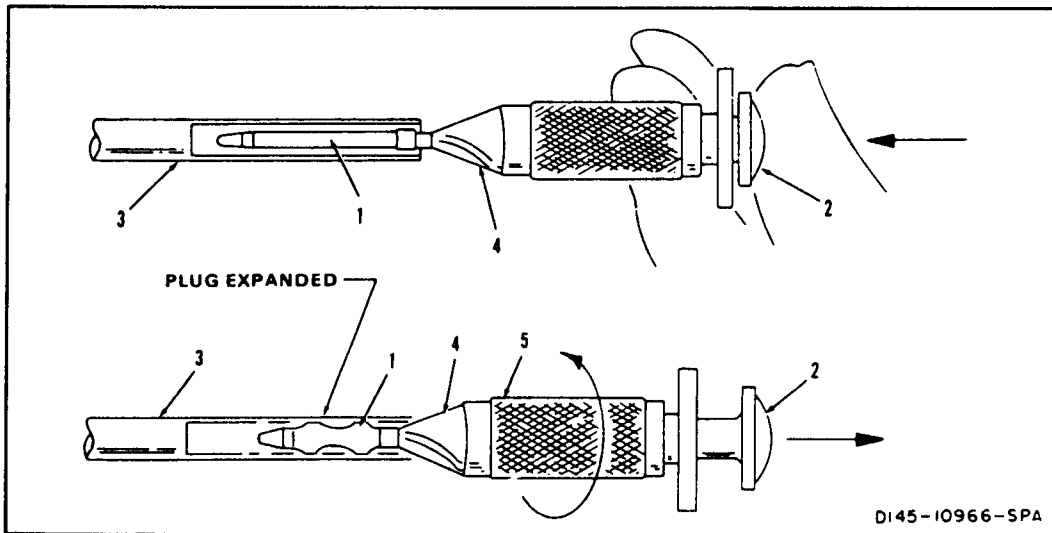

Figure 2-5. Deburring tool.
10. Inspect and assemble the correct deburring tool and stem subassembly using Table 2-1. Also refer to Figure 2-5 to complete steps 11 through 15 below.